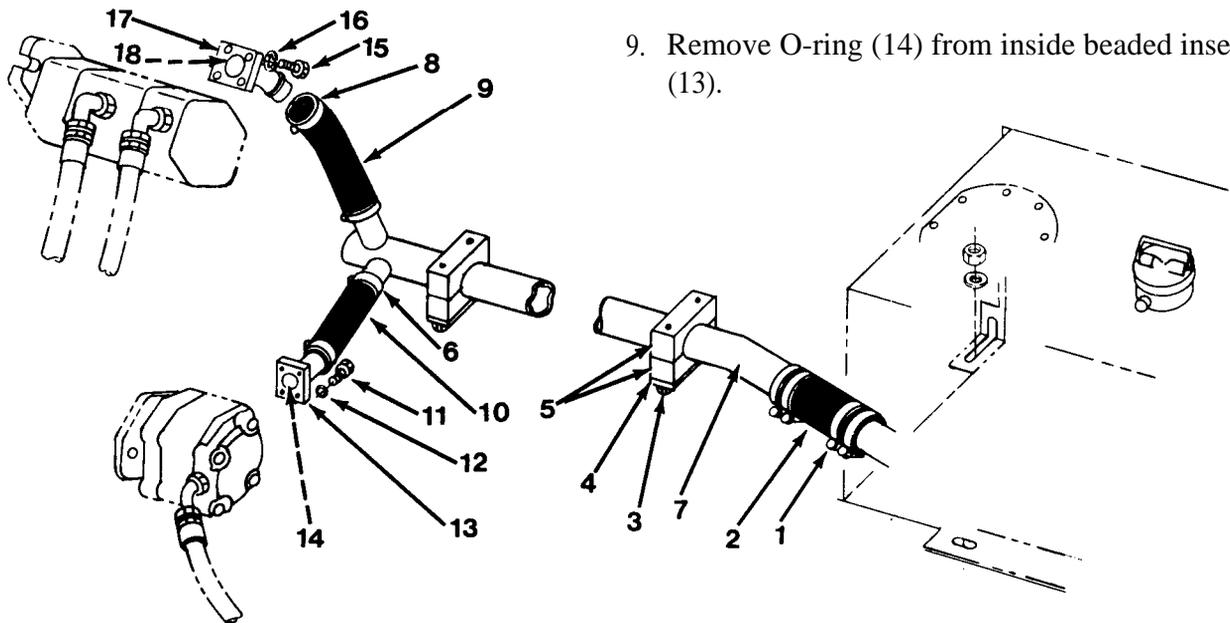

Figure 13-1
3. Loosen four clamps (1) and remove hose (2, Figure 13-1).
4. Remove four clamps (1) from hose (2).
5. Remove four capscrews (3), two cover plates (4) and half clamps (5).
6. Loosen two T-bolt clamps (6) and remove pump suction tube (7).
7. Loosen two T-bolt clamps (8) and remove hoses (9) and (10). Remove four T-bolt clamps (8) from hoses (9) and (10).
8. Remove four capscrews (11), lockwashers (12) and beaded insert (13).
9. Remove O-ring (14) from inside beaded insert (13).
1. Install O-ring (18) in beaded insert (17, Figure 13-1).
2. Position beaded insert (17) and install four lockwashers (16) and capscrews (15).
3. Install O-ring (14) in beaded insert (13).
4. Position beaded insert (13) and install four lockwashers (12) and capscrews (11).
5. Position T-bolt clamp (8) on hose (9).
6. Install hose (9) on beaded insert (17) and tighten T-bolt clamp (8).
7. Install T-bolt clamp (8) on hose (10).
8. Install hose (10) on beaded insert (13) and tighten T-bolt clamp (8).
9. Install two T-bolt clamps (6) on hoses (9) and (10).
10. Install pump suction tube (7) in hoses (10) and (9) and tighten two T-bolt clamps (6).
11. Position pump suction tube (7) and install two half clamps (5), cover plates (4) and four capscrews (3).